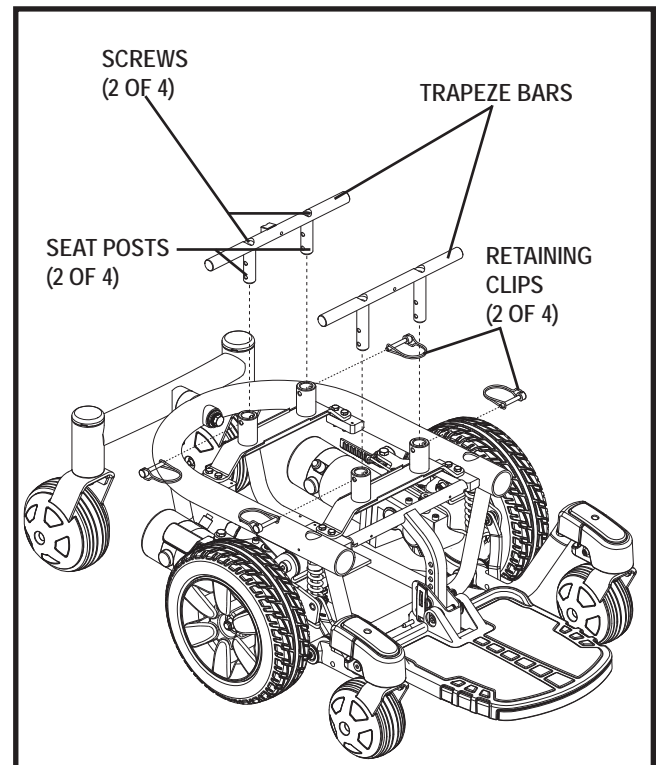

Figure 12. Seat Height Adjustment - Trapeze Bars
8. Loosen the screws that attach the trapeze bars to the seat posts. **See figure 12.**
9. Remove the retaining clips that secure the seat posts to the power base. **See figure 12.**